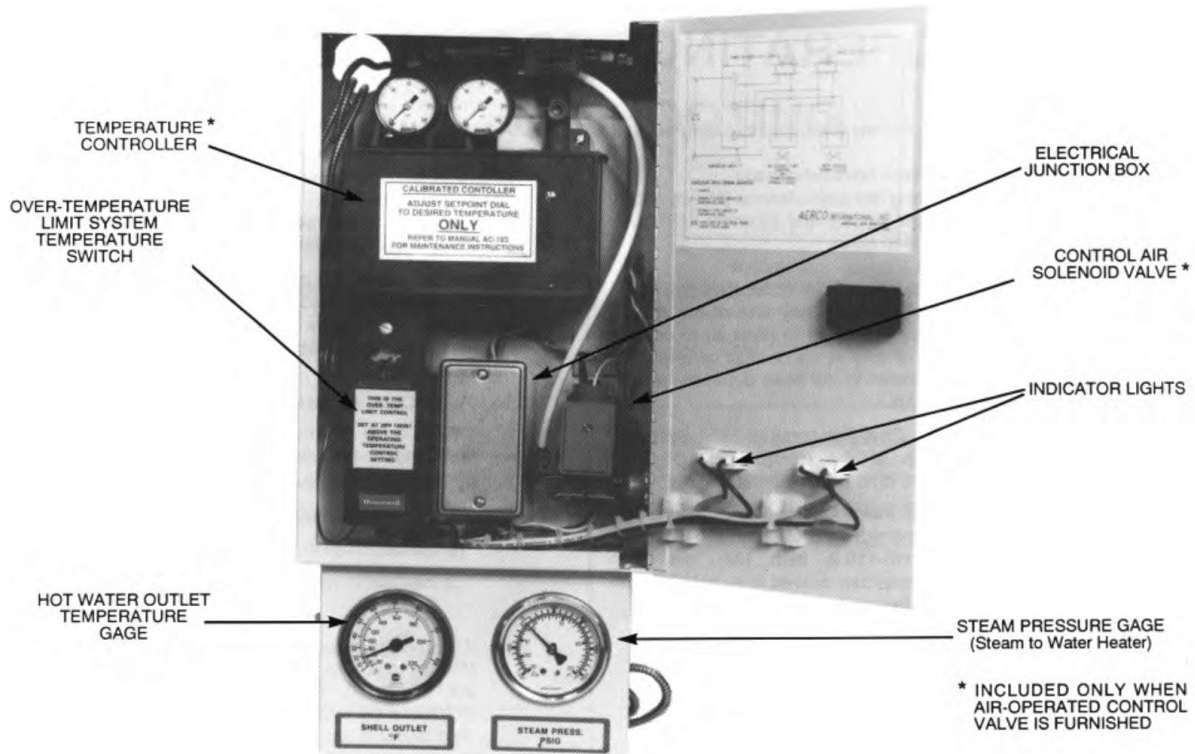

Figure 8 – Model B+II Heater Control Box
- 3) If the Steam Control Valve furnished is air operated and there is a Temperature Controller in the Control Box (see Figure 8), set the Controller at the temperature desired to be held at the Heater Hot Water outlet.